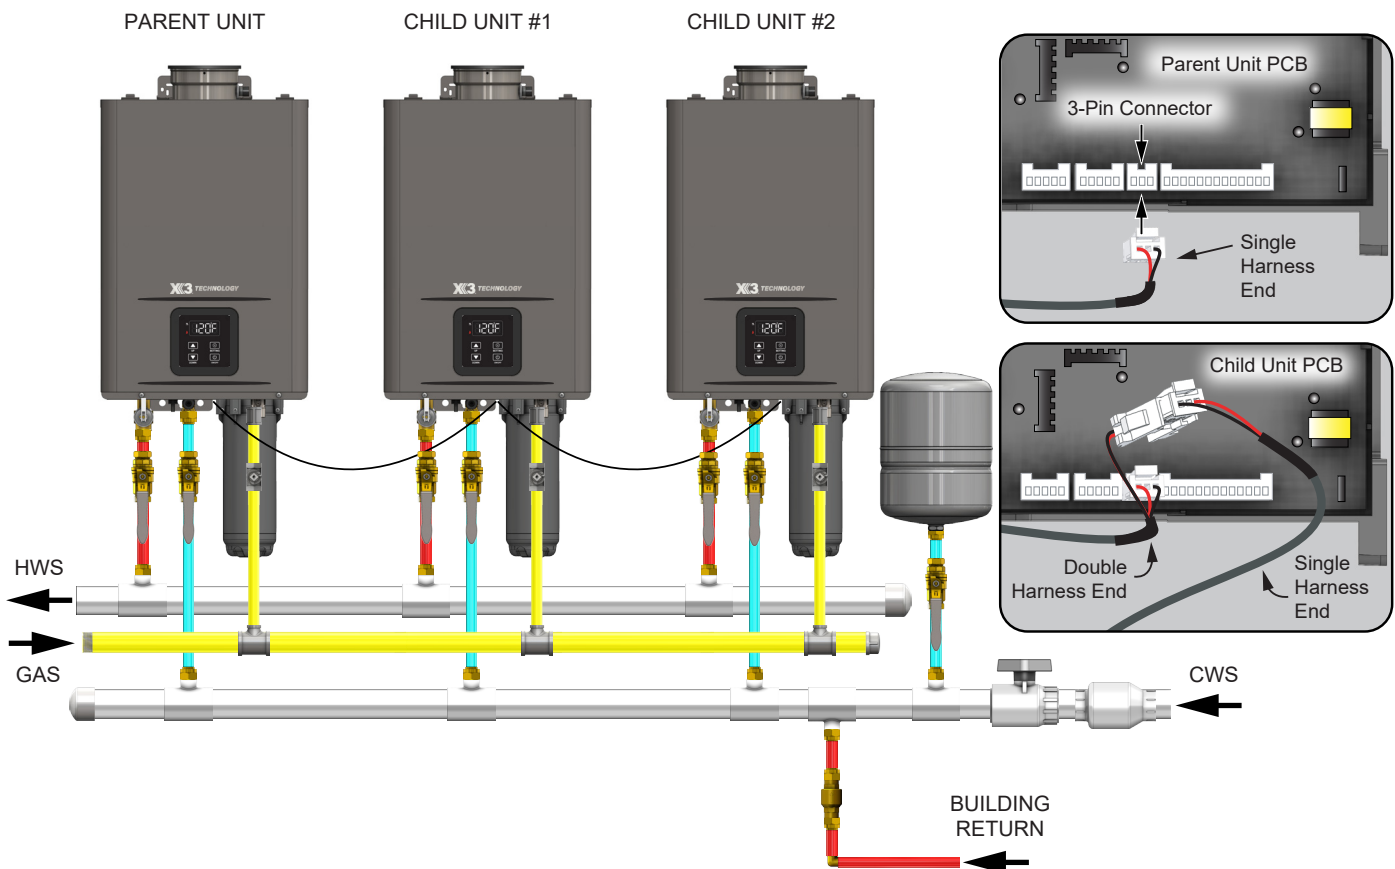

Figure 31 - Multi Unit Cascade Configuration
- 1 The Cascade system should be configured with the Parent water heater as either the first or last in the series of water heaters connected to the cold water supply. The Child units will follow sequentially. See Figure 31.
- 7 Use Figure 31 as a reference to locate the connection point for the Parent Cascade Unit. Use the single harness end of the Cascade Linking Cable to make the initial connection.
first Cascade Linking Cable as shown in Figure 31.